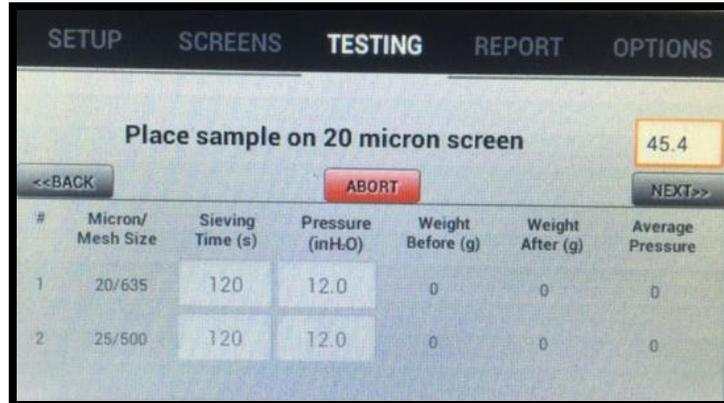

Figure 44
17. After pressing the **NEXT** button and with the Test Sieve Screen still sitting on the balance, the computer will send a tare command to the balance. The balance will briefly display “set” then show 0.00. With the Test Sieve Screen still on the balance, place the sample (suggested volume 10 to 100 grams) on the Test Sieve Screen. The sample weight, like the Test Sieve Screen weight, will be displayed on the right side above the **NEXT** button, provided weight displayed on both the balance and MAJSx screen are the same, press the **NEXT** button. (See Figure 44)